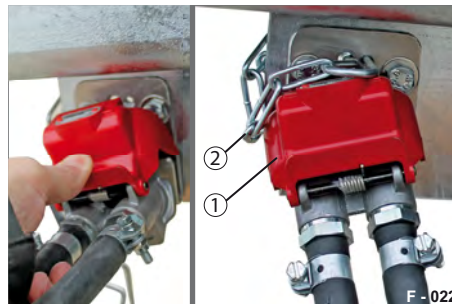

Fig. 22 Duo-Matic, parked
- Insert the spring pin (Fig. 22/2) into the bore holes.